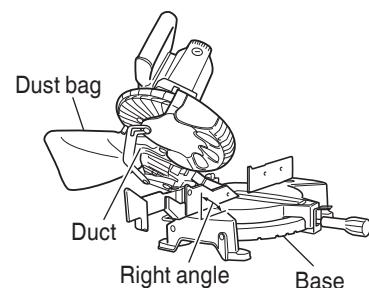

Fig. 33
(1) When the dust bag has become full of sawdust, dust will be blown out of the dust bag when the saw blade rotates. Check the dust bag periodically and empty it before it becomes full.
(2) During bevel and compound cutting, attach the dust bag at a right angle to the base surface as shown in Fig. 33.